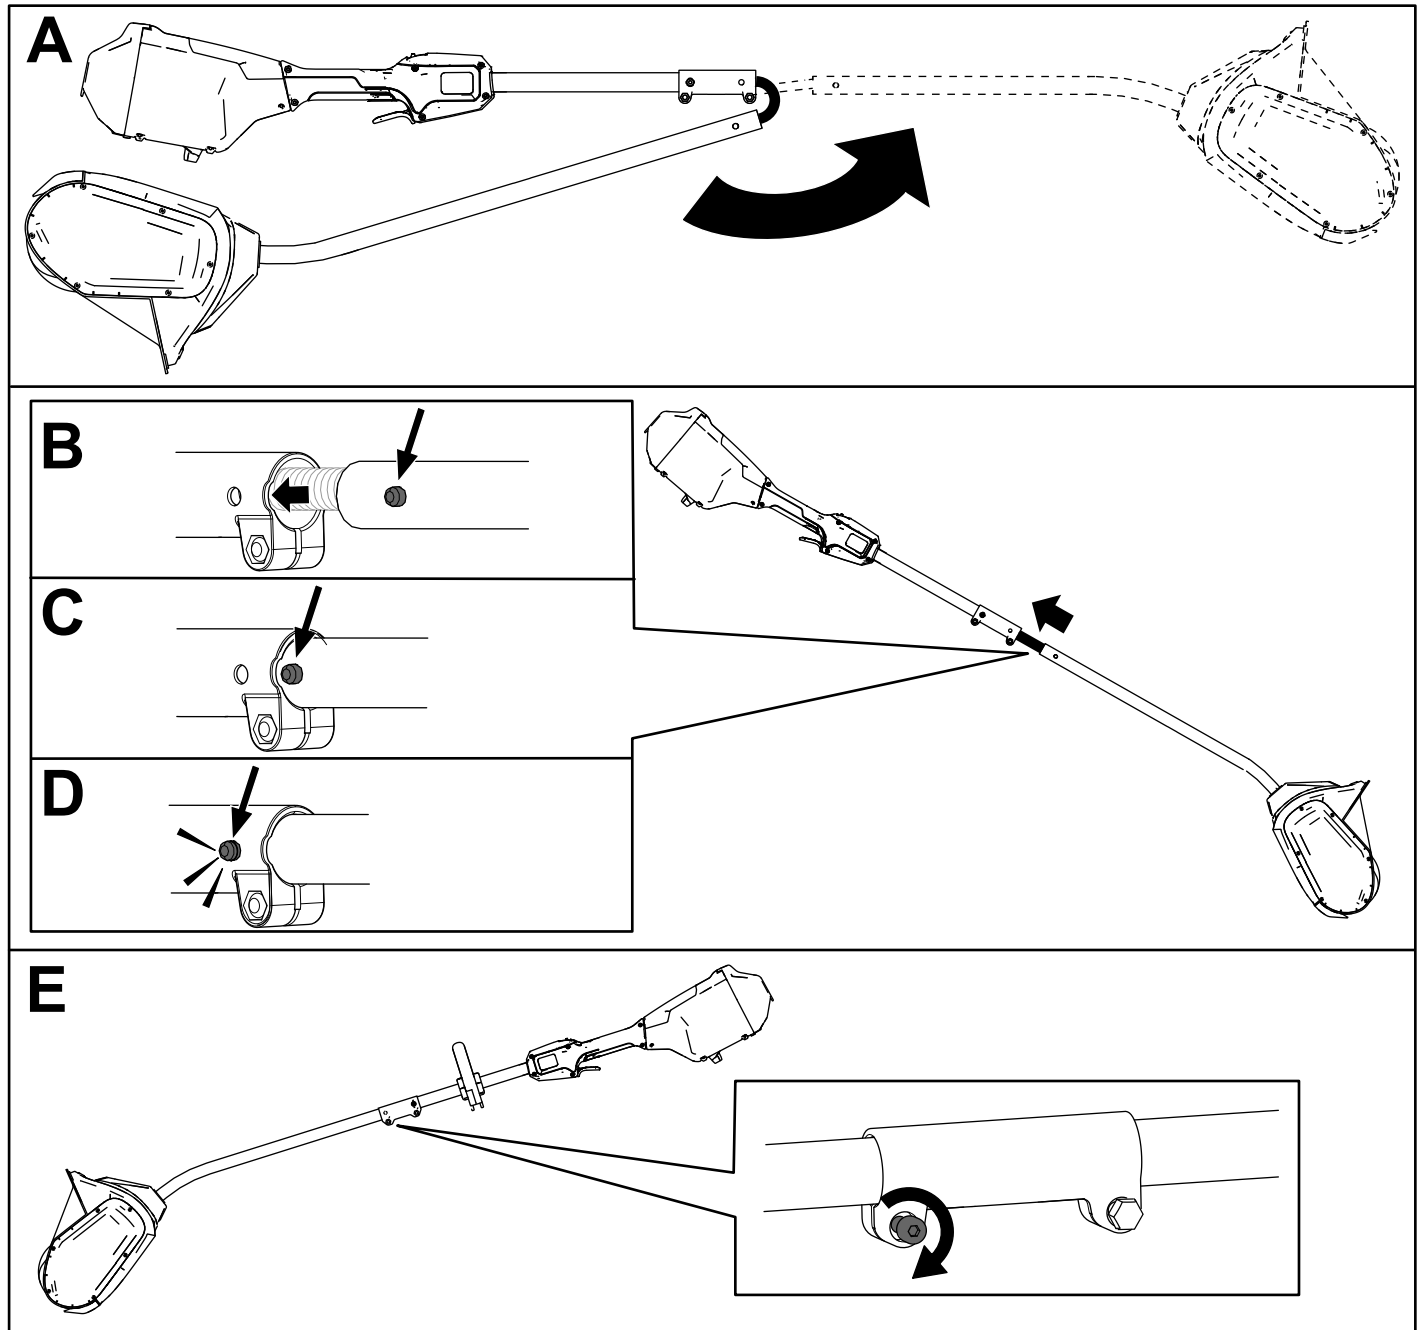

Figure 3
1. Unfold the handle (A of Figure 3).
2. Align the locking button on the lower shaft with the slotted hole on the upper shaft and slide the 2 shafts together (B and C of Figure 3).
**Note:** The locking button clicks into the slotted hole when the shafts are secured (D of Figure 3).
3. Using the provided Allen wrench, tighten the screw on the shaft connector until it is secure (E of Figure 3).